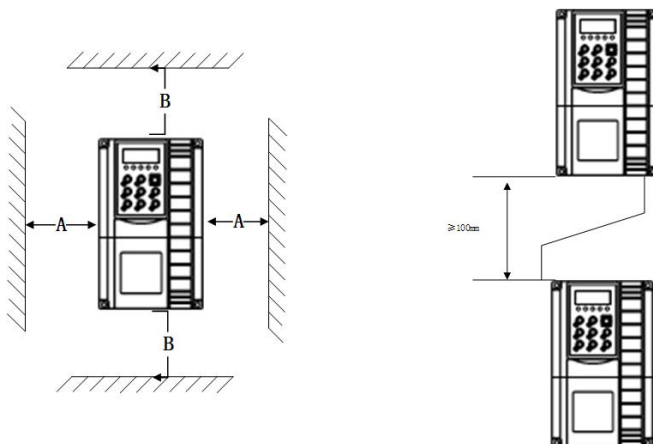

Figure 3-1 Mechanical Installation picture show
- 1) Please install the inverter vertically, so that the heat can be distributed upwards. But can not be inverted. If the cabinet has more frequency converter, it is best to install side by side. Please refer to Figure 3-1 for the installation of the insulation baffle.
- 2) Installation space Follow the example shown in Figure 3-1 to ensure the cooling space of the inverter. However, please consider the layout of the cabinet when the heat dissipation of other devices.